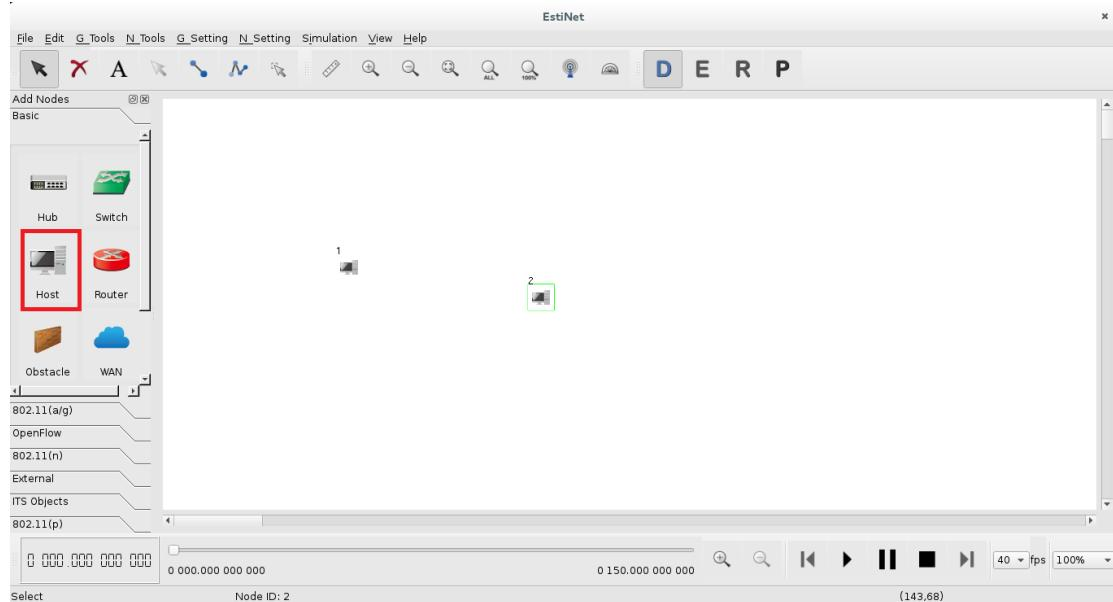
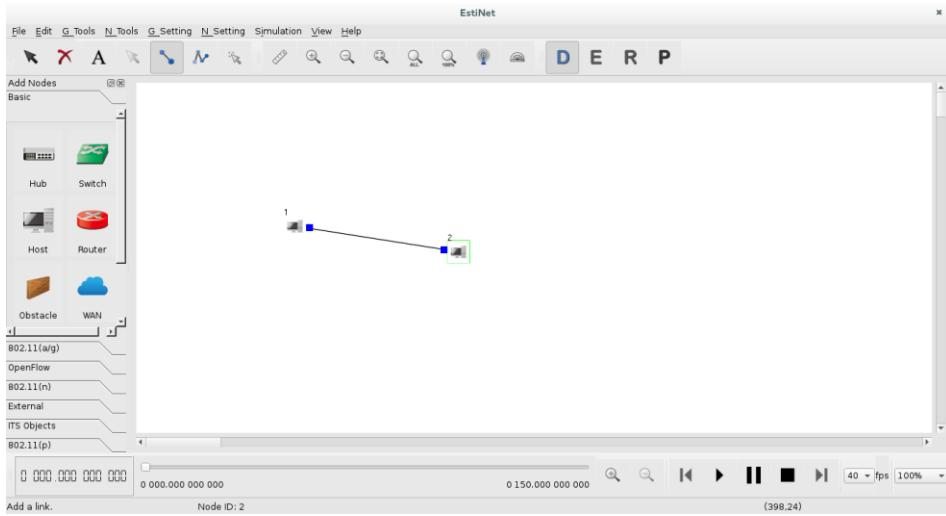

Figure 2.1.9 Add two hosts into working area
Figure 2.1.11 Complete a simple network topology
(2) Click on the host node () and then left click at the desired location in the working area.
(3) To deploy another host node just clicking the left mouse button at the next desired location in the working area as figure 2.1.9.
- (4) Click on the **Create a point-to-point link** icon ()as figure 2.1.9.Click and hold the left mouse button on the *host node1* then drag the cursor to the *host node2* and release the button to complete the connection. The linkage would be created between node1 and node2 as figure 2.1.11.